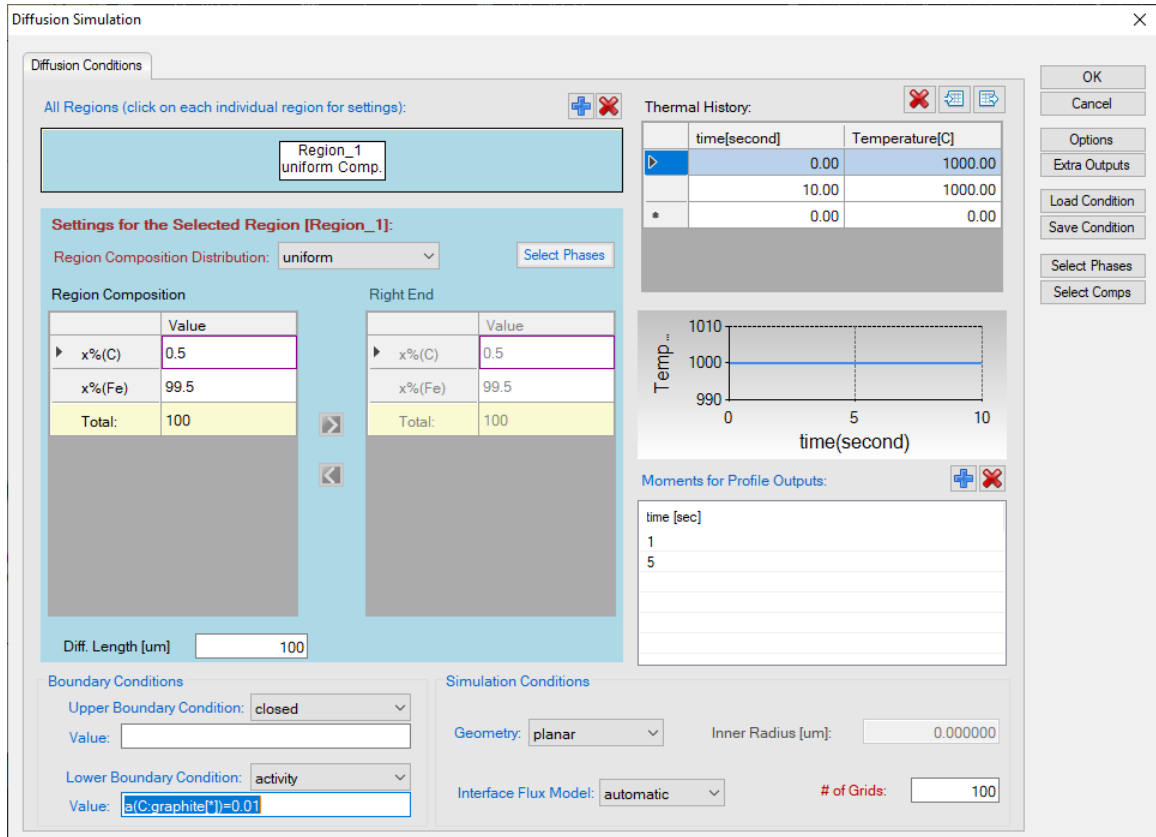

Figure 4.14.1: Settings applied in this example.
- The default output includes profiles of the initial and final compositions. To record a composition profile at a moment, click  next to the “Moments for Profile Outputs” and input a time value. As shown in Figure 4.14.1, profiles at 1 second and 5 second will be outputted. Click OK to start calculation;